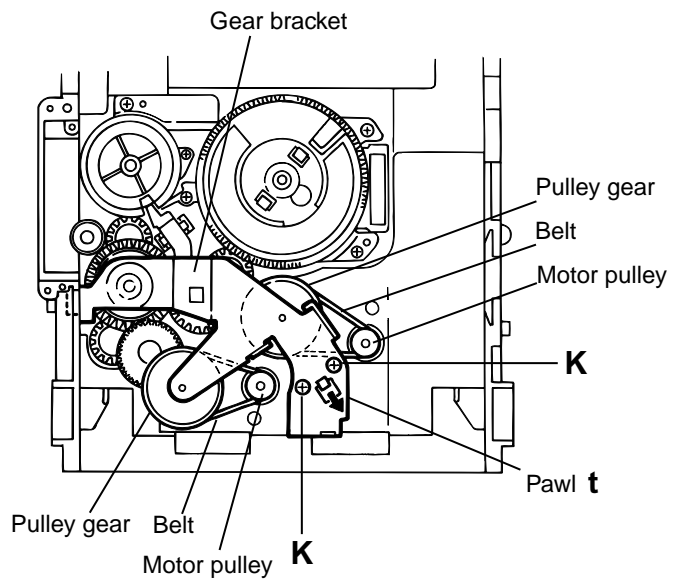

Fig.18
4. While turning the cam gear "q", align the pawl "s" position of the select lever to the notch position(Fig.18) on the cam gear "q".
5. Remove the four screws **J** retaining the cam unit(cam gear "q" and cams R1/R2 assembly)(See Fig.18).
■ Removing the actuator motor and belt (See Fig.18~21)